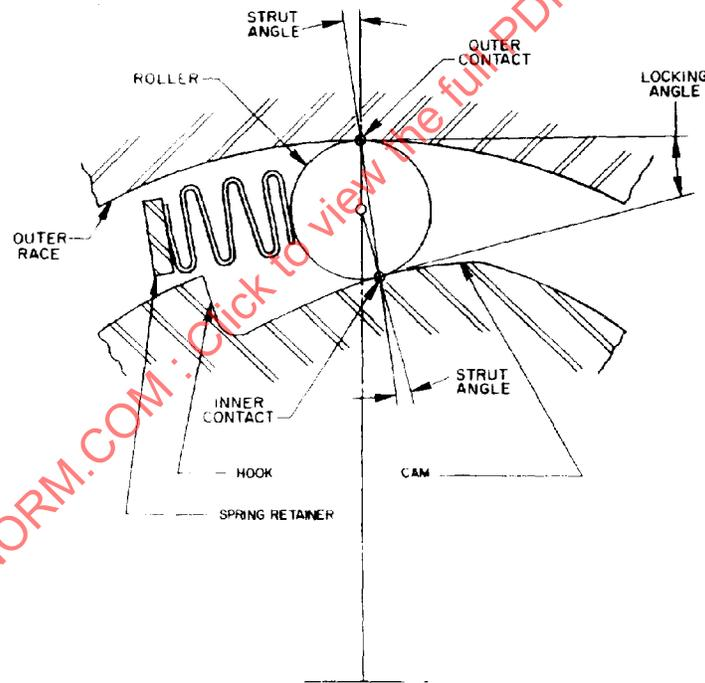

FIGURE 4—INNER CAM TYPE ROLLER ONE-WAY CLUTCH DIAGRAM
4.2.2 INNER CAM CLUTCH—A roller clutch which has the cam profile surfaces on the inner element. (See Figure 4.)